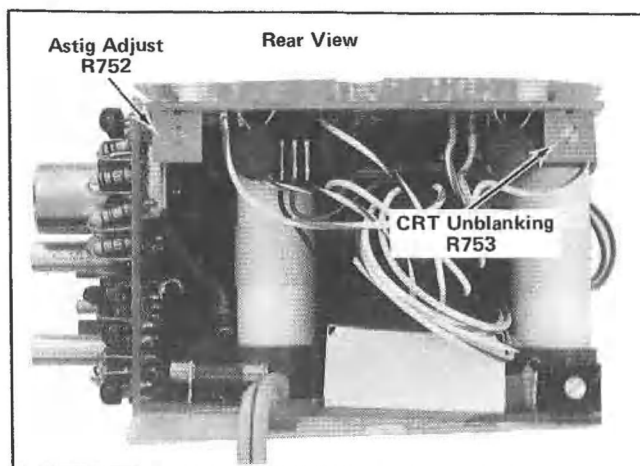
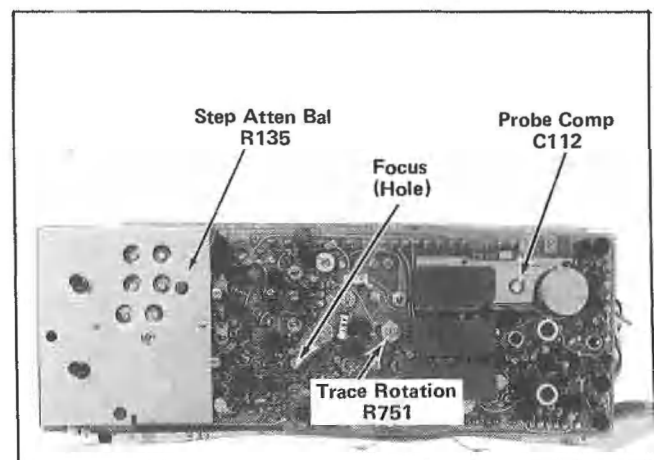

Fig. 5-3. Location of Astigmatism and CRT Unblanking adjustments.
Fig. 5-4. Location of Step Attenuator Bal, Probe Compensation, and Focus adjustments.
Preset the controls as given in the Preliminary Control Setting. See Fig. 5-3 and Fig. 5-4 for locations of adjustment controls.
d. Adjust Trace Rotation R751 (screwdriver adjustment on sidepanel) for a trace that is parallel with the horizontal graticule lines. See Fig. 5-4.
b. Adjust unblanking adjustment R753 (see Fig. 5-3) so that retrace is just blanked out.
- e. Adjust the STEP ATTEN BAL adjustment, R135, for a trace at the horizontal center line. See Fig. 5-4.
- f. Adjust C112 for the best square-wave display (flat top). See Fig. 5-4.